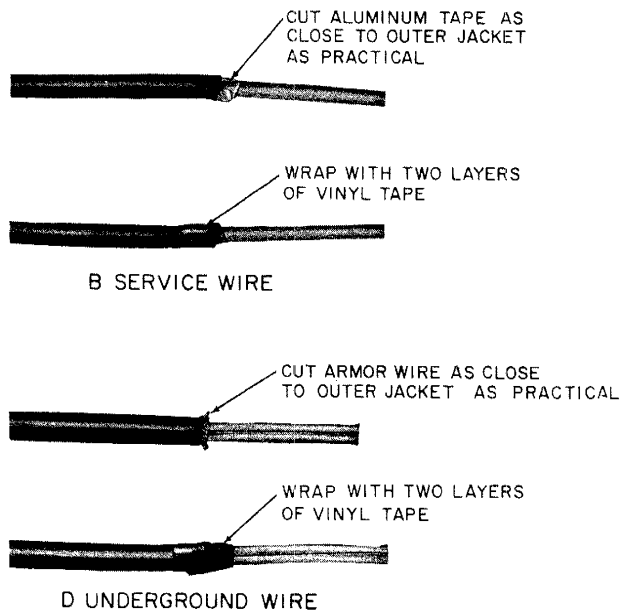
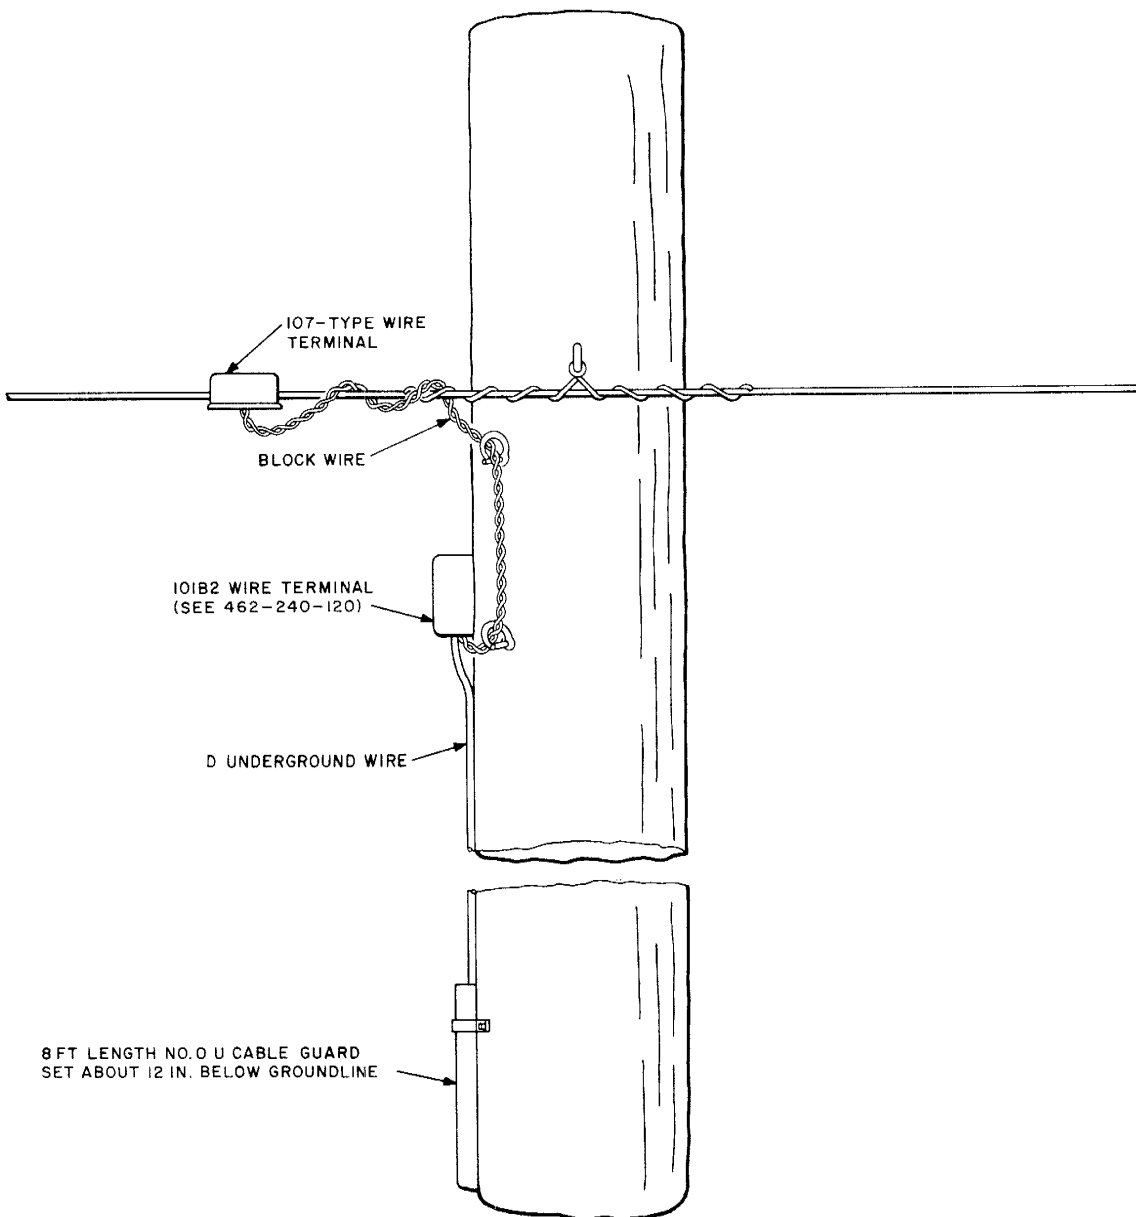
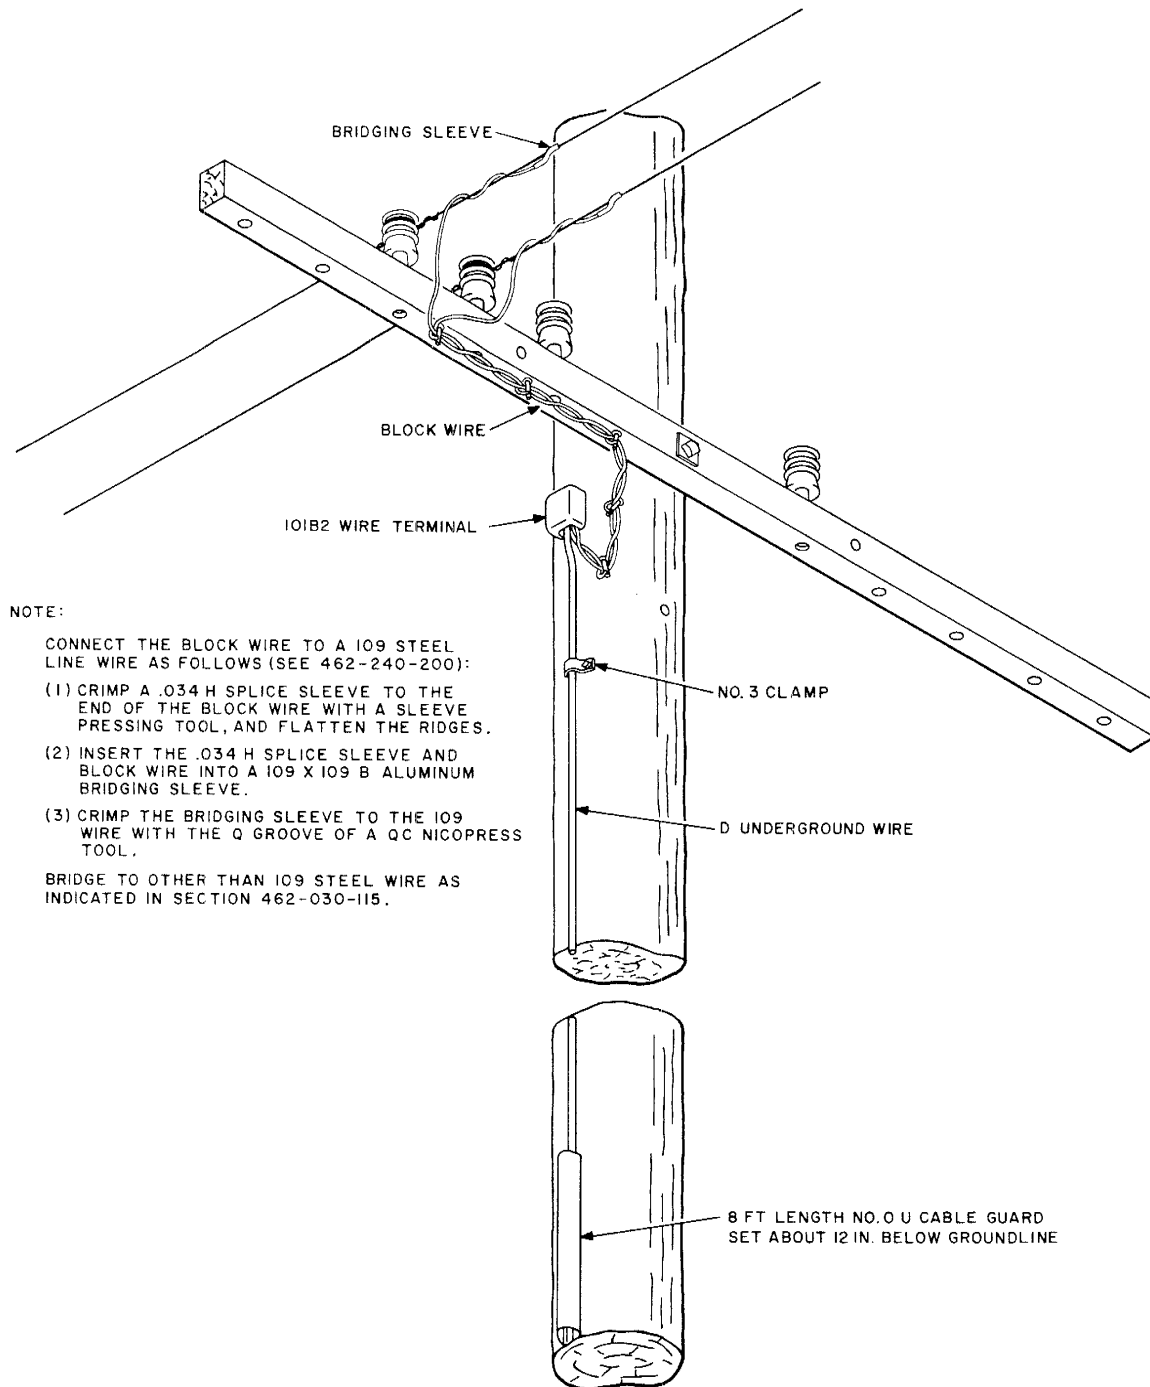

Fig. 3—Removal of Aluminum Tape or Armor Wire
Fig. 7—Termination of Underground Wire and Rural Wire
Fig. 8—Termination of Underground Wire and Open Wire
2.04 Where the buried wire is 500 feet or less in length, grounding of the armor wire or aluminum tape at the cable terminal is omitted. Cut off the armor wire or aluminum tape and wrap with two turns of vinyl tape to protect against sharp edges (Fig. 3).
3.02 D Underground Wire can be used with or fed from multiple wire where the multiple wire is exposed to power contact and fuseless station protection is used. D Underground Wire should be brought up a pole and terminated in a 101B2 Wire Terminal. At the groundline the wire should be covered with an 8-foot length of No. 0 U Cable Guard. Cut off the armor wire as shown in Fig. 3. Connect the conductors of D Underground Wire to the conductors of the multiple wire with
4.02 At the junction with C Rural Wire, D Underground Wire can be brought up a pole and terminated in a 101B2 Wire Terminal. At the groundline the D Underground Wire should be covered with an 8-foot length of No. 0 U Cable Guard. The armor wire should be cut off as shown in Fig. 3. Block wire should be used to bridle between the 101B2 Wire Terminal and the 107-type wire terminal on the C Rural Wire. A typical installation is shown in Fig. 7.
5.02 At the junction with open wire, D Underground Wire can be brought up a pole and terminated in a 101B2 Wire Terminal. At the groundline the wire should be covered with an 8-foot length of No. 0 U Cable Guard. The armor wire should be cut off as shown in Fig. 3. Block wire must be used between the protector and the open wire. A typical installation is shown in Fig. 8.